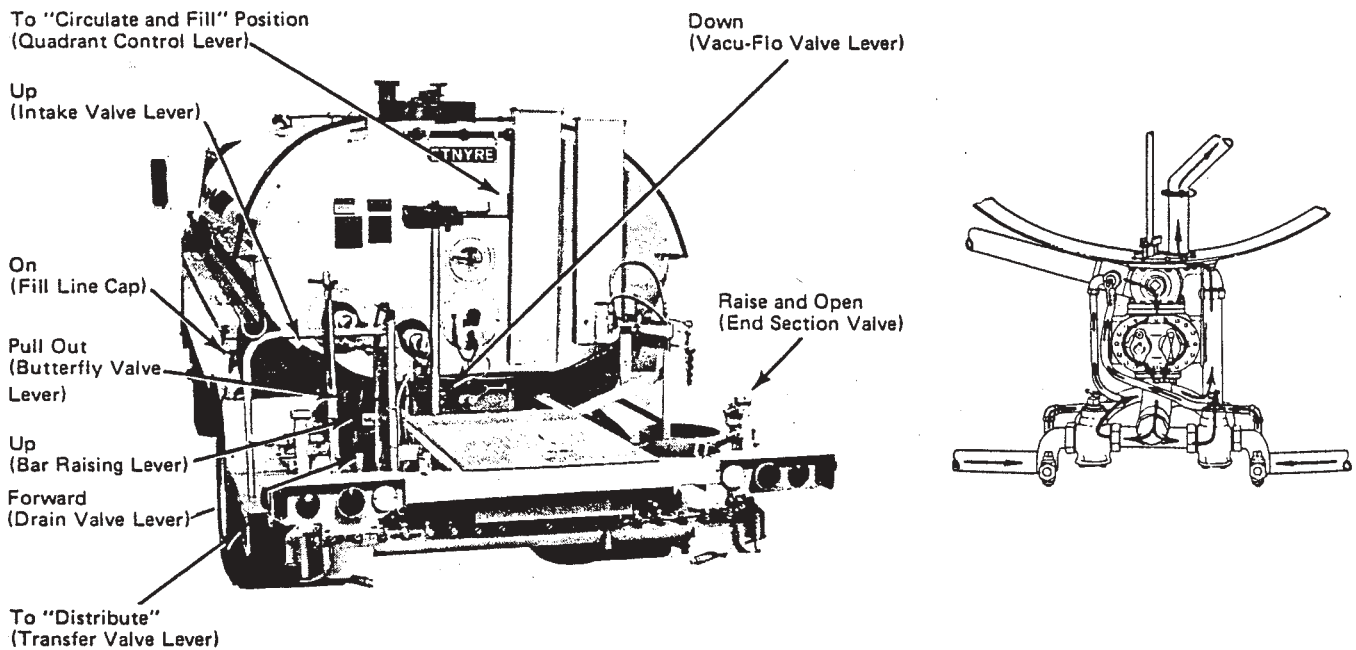

Figure 24. Drawing Material in Bar Back Into Tank
1. Set the operating valves and levers as shown in Figure 24.